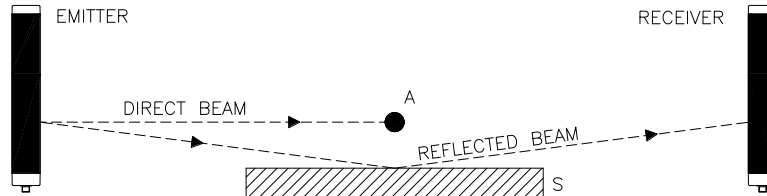

Figure 8 - Reflective surfaces
**⚠** The presence of reflective surfaces close to the light curtain may cause occasional reflections that prevent sensing. Referring to Figure 8, object A is not detected due to surface S that, reflecting the beam, closes the optical path between the Emitter and Receiver. Therefore, a minimum distance  $d$  must be maintained between any reflecting surfaces and the guarded area. We recommend calculating the minimum distance  $d$  using the values for Type 4 devices as set forth in IEC/EN 61496-2.